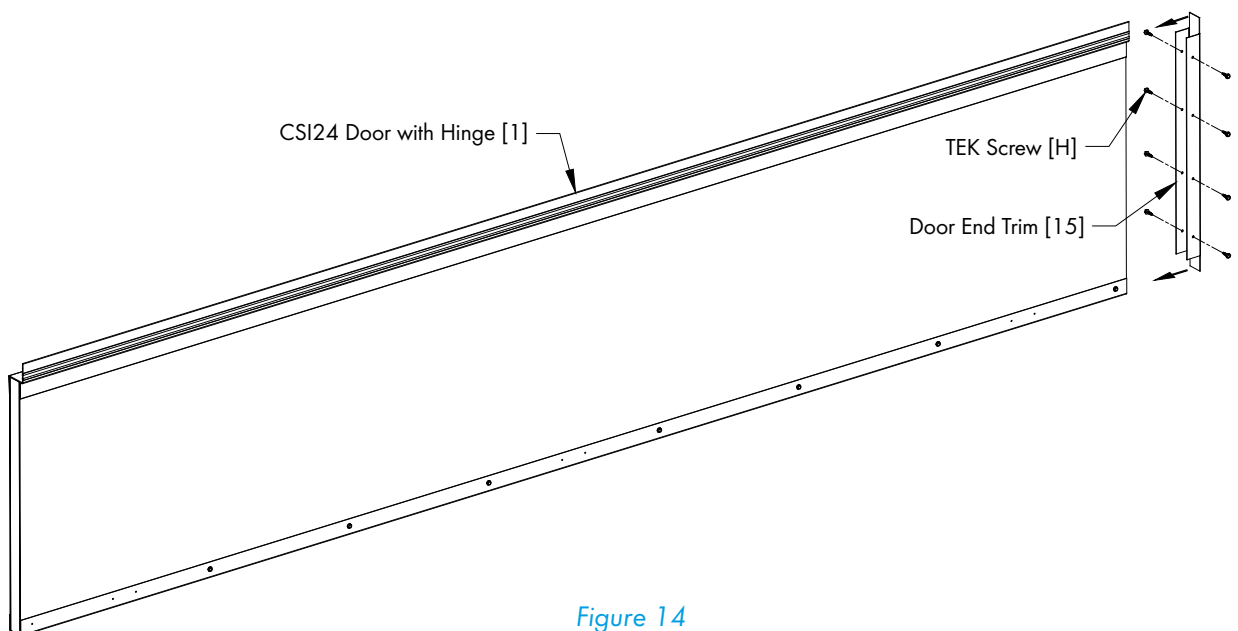

Figure 14
Slide a Door End Trim [15] over the Left Door and secure in place with (8) TEK Screws [H]. See Figure 14.